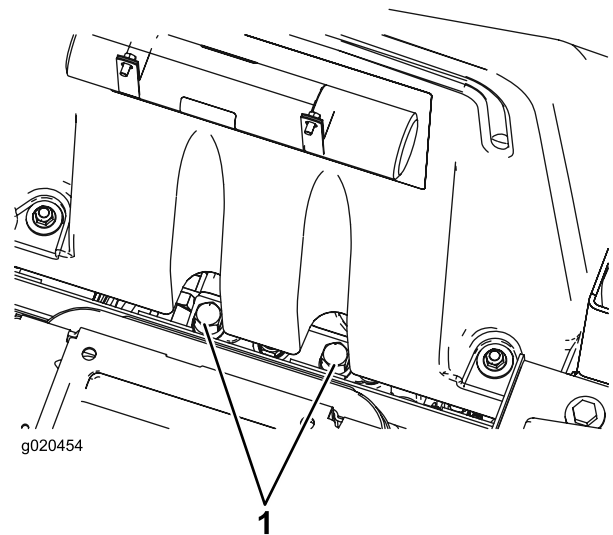

Figure 32
1. Raise the seat and locate the bypass valves, which are located below the front of the fuel tank (Figure 32).